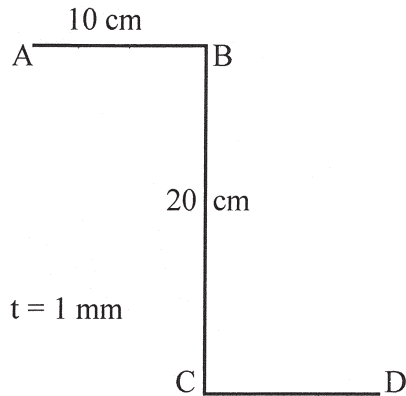

Figure 3
12. a) A thin-walled Z-section with wall thickness 1 mm is indicated in Figure 3. Obtain expressions for the shear flow distribution in A-B and B-C when the given section is subject to shear force $V_y = 1$ kN. Plot the resulting shear flow pattern.